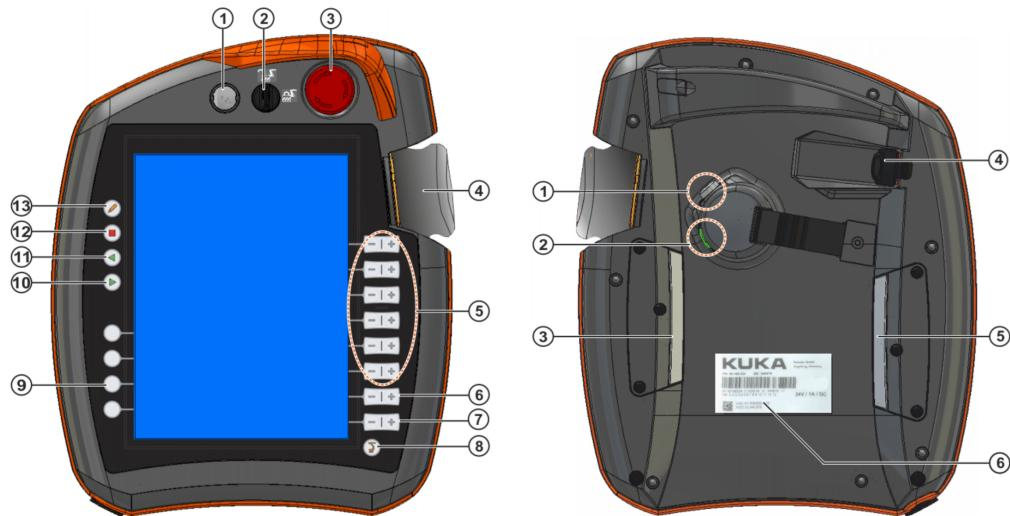
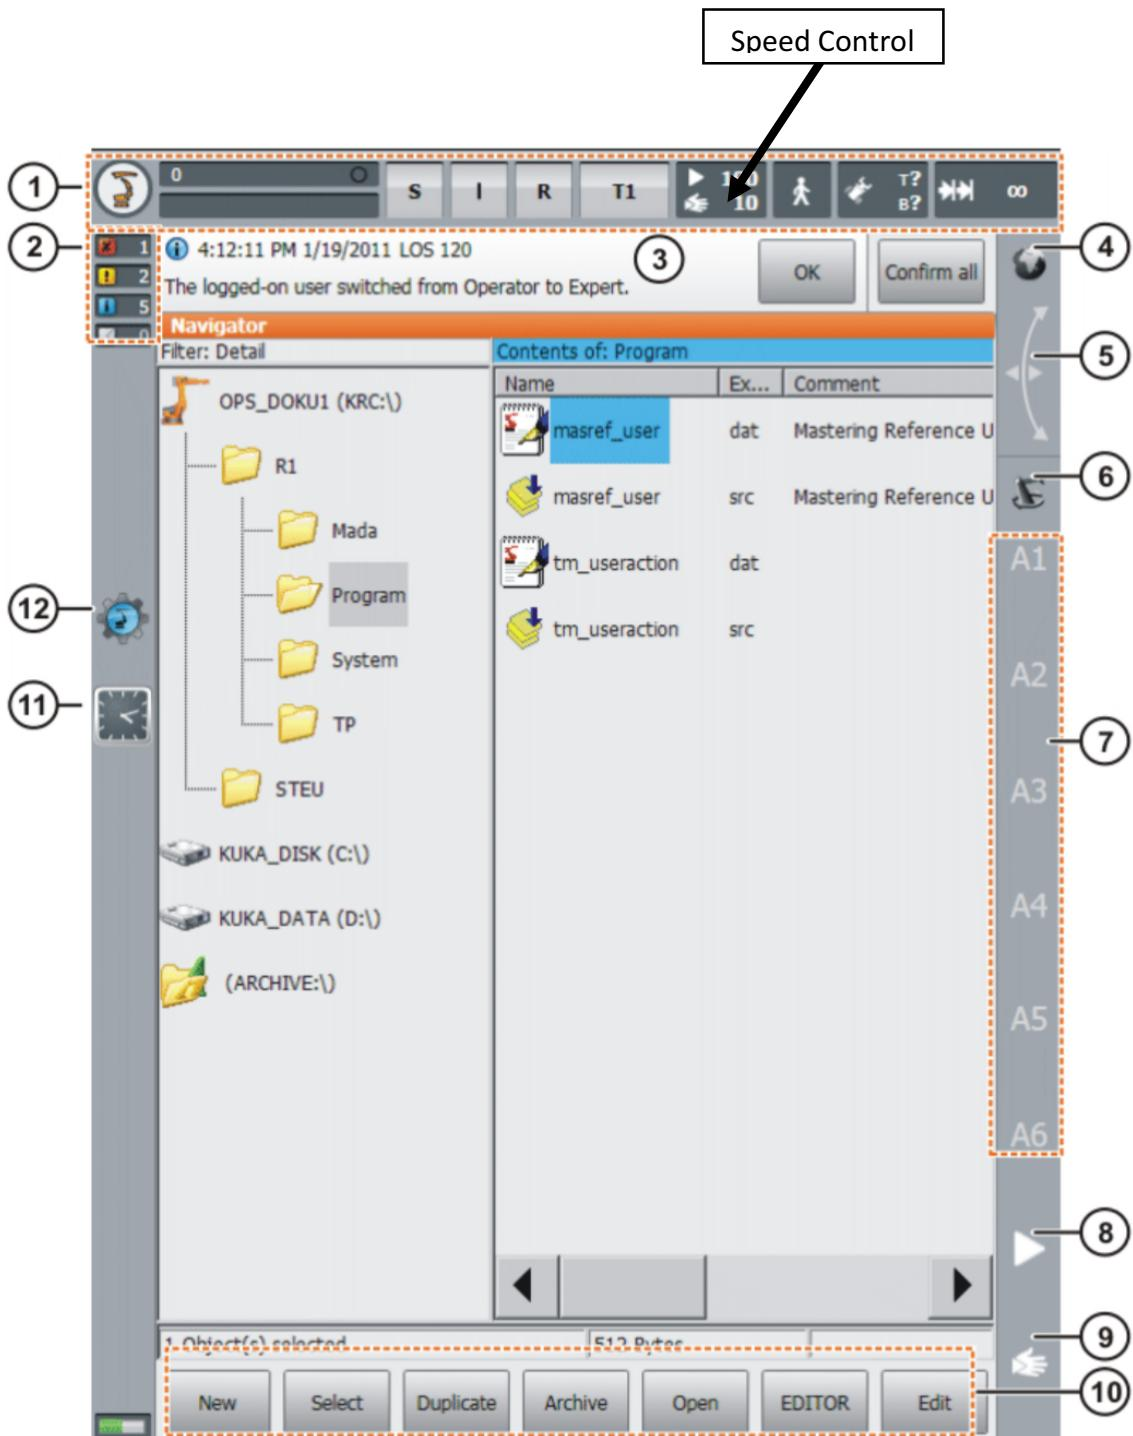

Figure 6: KUKA Pendant
Figure 7: KUKA Pendant Interface
- 2) Flip green power switch on front of KUKA to ON position. The KUKA pendant (Fig. 6) should activate. It will say “Waiting for cyclic connection” for some time, and then eventually show the robot interface.
- 2) Depress one of the enabling switches on the back of the KUKA pendant (Fig. 6, rear view, Nos. 3 and 5) part-way. The KUKA controller should hum and the A1-A6 indicators on the pendant (Fig 7, No. 7) should go green.
- 3) Use the +|- buttons on the KUKA pendant to drive the robot (Fig. 6, front view, No. 5).
- a) To increase the velocity at which the robot moves, click the Speed Control icon on the KUKA touchscreen (Fig. 7), and then drag the lower slider to the right.
- b) To change the coordinate system in which the arm moves (joint, tool, base, etc.), press the Coordinate System icon on the KUKA touchscreen (Fig. 7, No. 6) and select your desired coordinate system. **NOTE:** Be cautious when moving in a new coordinate system, as the robot may move in unexpected directions!